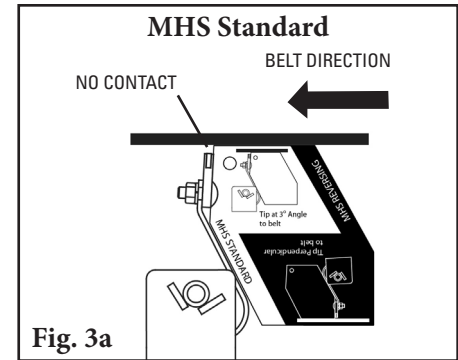

Fig. 3a
**For MHS Standard:** Rotate the pole until the tips align with the white “MHS Standard” side of the tip setup gauge provided (Fig. 3a).